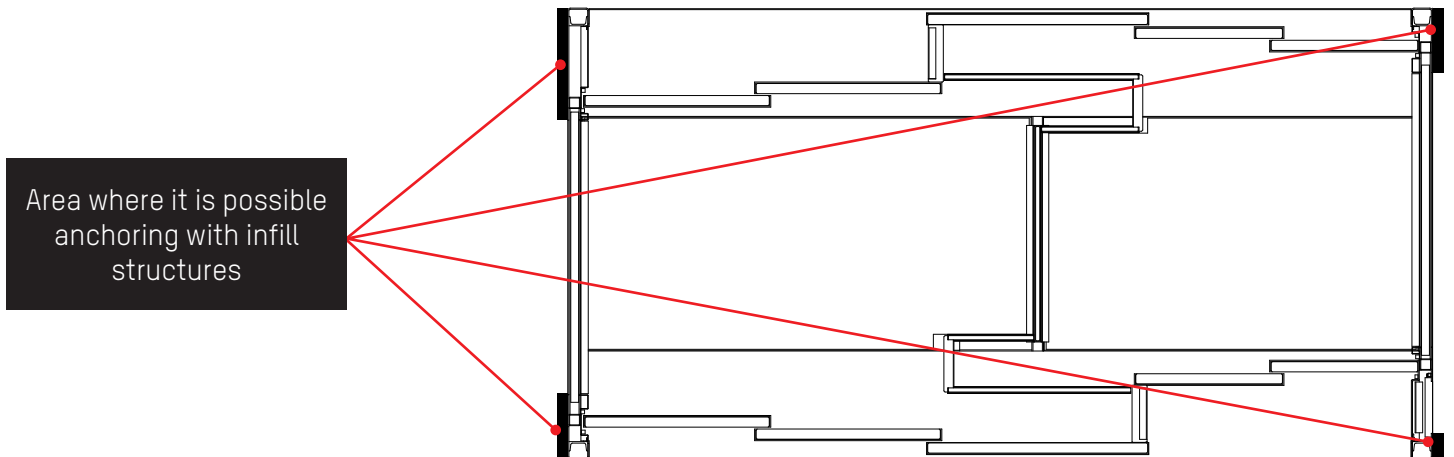

Fig. 20 - Area where it is possible anchoring with infill structures
2. Position with the infill frame to the chosen anchorage zone on the security booth. (⇒ Fig. 20).